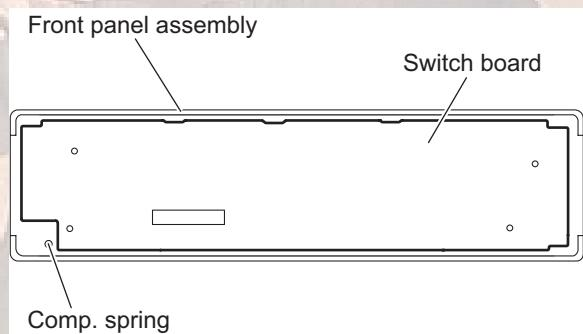

Fig.17
(3) Take out the switch board from the front panel assembly. (See Fig.17)
When removing the rear cover assembly and front board, be careful not to lose the comp. spring. (See Fig.17)